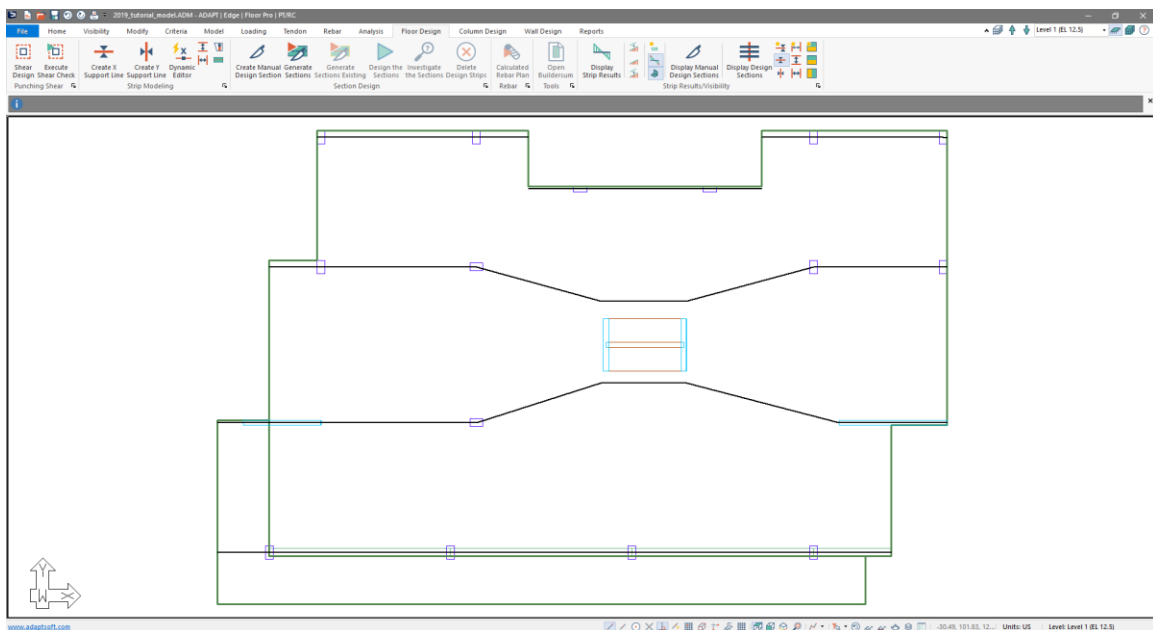

Figure 9-20
- Using the mouse select and move the points that coincide with the wall off the wall edge in the middle of the slab, similar to that shown in **FIGURE 9-20**.